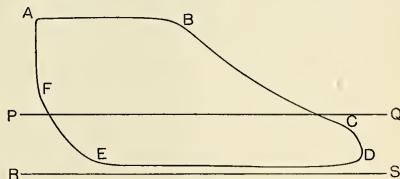

FIG. 81.
**Indicator Card**—The card or diagram obtained by means of the indicator. A typical card is shown in Fig. 81. *A* is the beginning of the stroke, *B* the point of cut-off, *C* the point of exhaust opening, *D* the end of the stroke and beginning of the return, *E* the point of exhaust closure, and *F* the point of steam opening for the next stroke. *AB* is called the *steam line*, *BC* the *expansion line*, *CDE* the *exhaust line*, *EF* the *compression line*, and *FA* the *admission line*. The line *PQ*, drawn